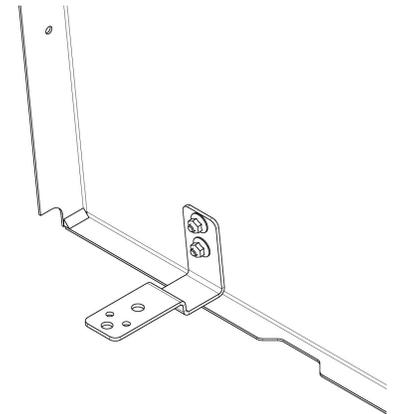
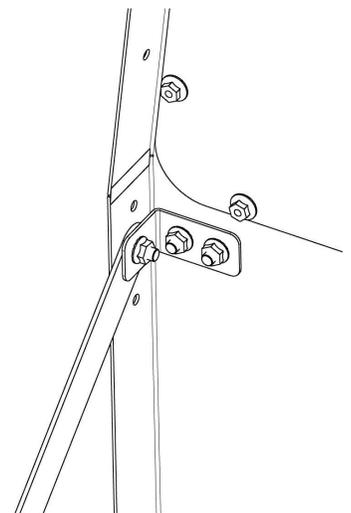

Figure 3
Figure 4
- A. Locate the (2) Lower Barrier Brackets [3BAR572101], the (4) carriage bolts [3X36], and the (4) 1/4-20 whiz nuts [3X612].
- C. Loosely secure the Lower Barrier Brackets in place by inserting the (4) carriage bolts [3X36] through the square holes in the barrier and finger tightening the (4) whiz nuts [3X612] onto the bolts. The nuts should be on the back side of the barrier against the brackets. Figure 3 shows an installed driver side Lower Barrier Bracket.
- D. Locate the (2) Barrier L-Brackets [3BAR572104], the (2) Barrier Support Bars [3BAR572105], (6) 5/16-18 button head screws [3X149], and (6) 5/16-18 whiz nuts [3X619].
- E. Identify the 5/16" hole in the left flange on the barrier and insert (1) of the button head screws [3X149] then slide the support bar and the L-bracket onto the bolt. Loosely thread (1) whiz nut [3X619] onto the nut. Figure 4 shows the correct orientation of the brackets and fasteners.
- G. If installing a Pro-gard Transport Seat, attach the OSB / Seat Support Bar to the barrier at this time using the center (4) holes on the barrier and the hardware included with the seat kit.
- H. Insert the remaining (4) button head screws [3X149], (2) per side, from the front side of the barrier through the L-Brackets. Loosely thread a whiz nut [3X619] onto each of the (4) screws.